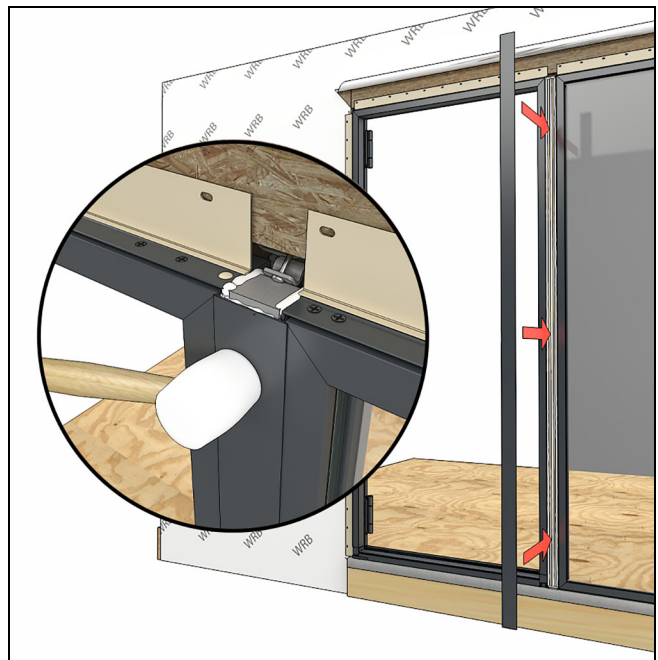

Figure 252
27. Install the exterior mull cap. Seat in place with a rubber mallet. See Figure 252.